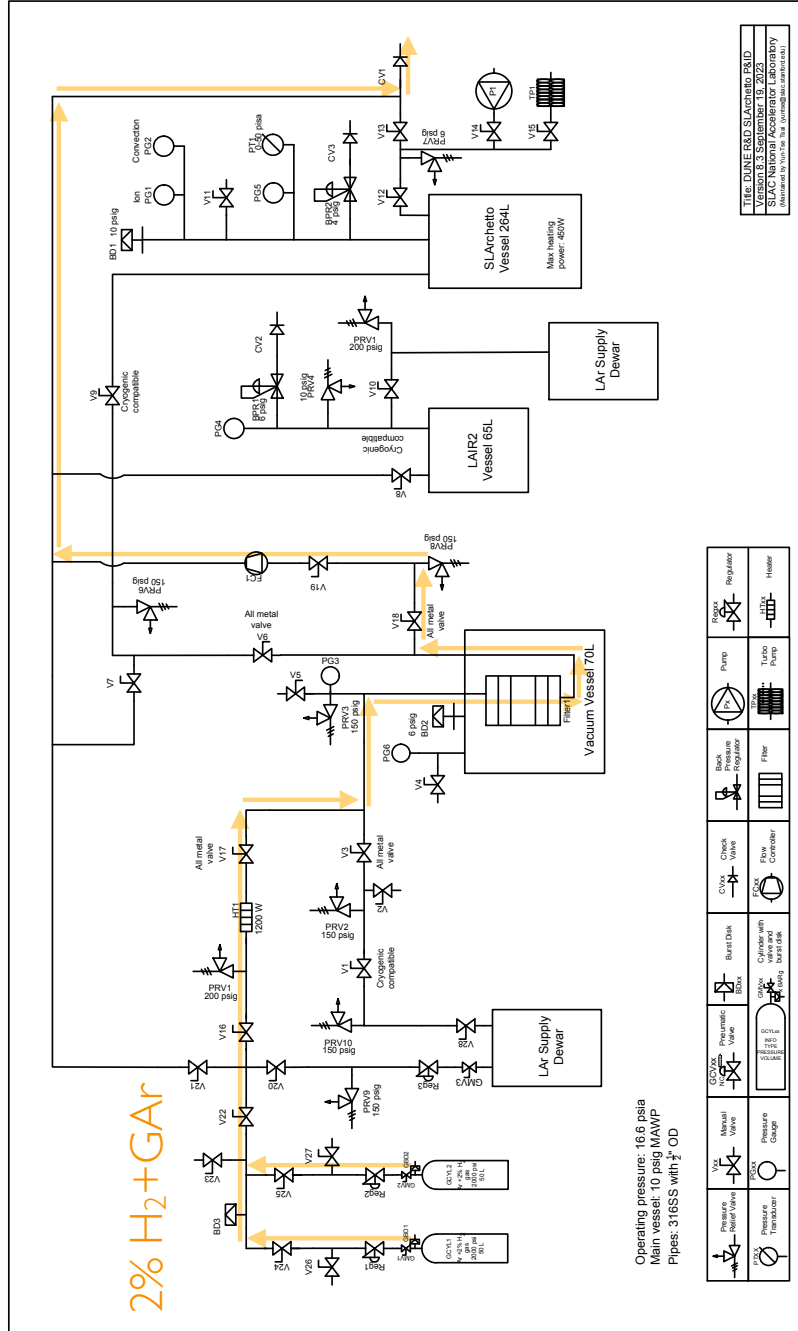

Figure 3: Gas flow direction: 2% H_2 +Ar gas
- The 2% H_2 +Ar gas flows from the gas cylinders, Reg1/2, V26/V27, V22, V16, HT1, V17, into the LAr filter, and vents from V18, V19, FC1, outside the LNTF hut along the venting pipe, as shown in Fig. 3.